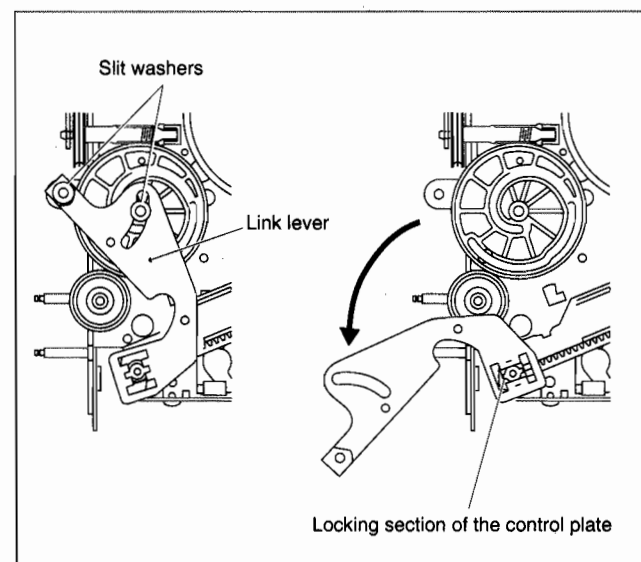

Fig. 2-2-25
- (3) Insert the link lever into the locking section of the control plate. (See Fig.2-2-25.)
- (4) Rotate the link lever clockwise so that it is installed on the shafts in the center and on the left of the control cam.
- (5) Fasten the slit washers at these two points.